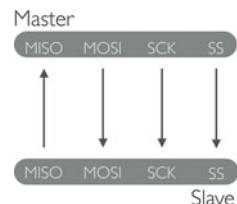

Figure 8.9 SPI communication channels
There's also a fourth slave select (SS) pin on each peripheral that you can use to select which device you wish to talk to. Setting the SS pin `LOW` tells the device to communicate with the master, while setting it `HIGH` tells it to ignore the master. By using the SS pin, you can have multiple devices utilizing the same three communication lines, and you can switch between devices one at a time by setting their pins `LOW` and `HIGH` respectively. A visual overview of the SPI communication channels is provided in figure 8.9.